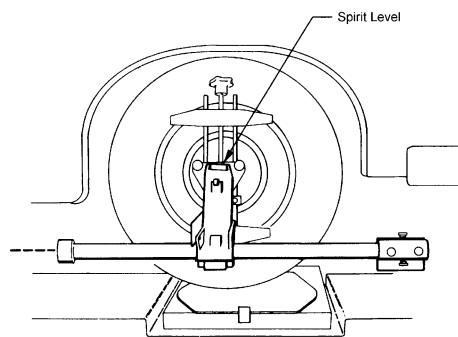

Figure 32
- 1) Project the laser beams from the Left and Right Toe Gauges onto the Rear Retro-screens. If the beam does not strike the rear mirror, check the level of the Laser Toe Gauge. (See Fig. 32)